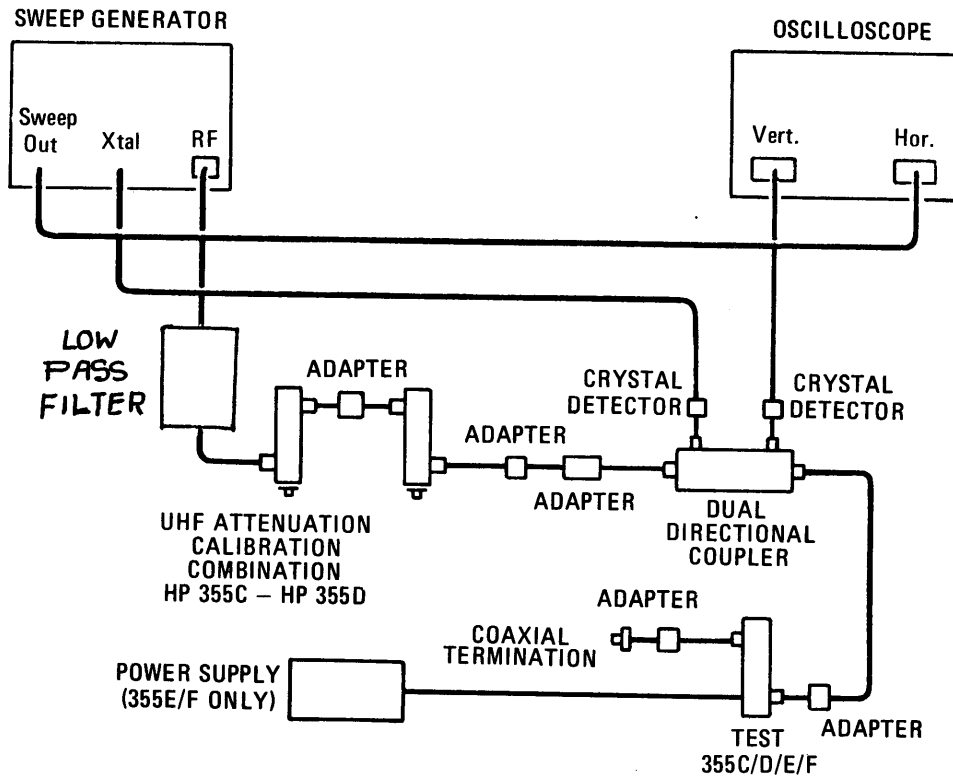

Figure 5. 355C/D/E/F SWR Test Setup
1. Connect the equipment as shown in Figure 5, omitting the 355 under test and the 50 ohm termination.